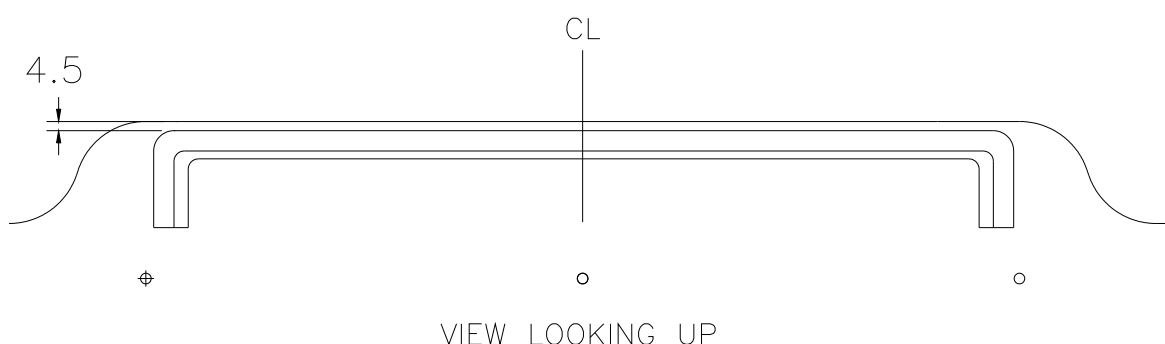

Figure 1: Installation of Bracket to the Instrument Panel Cover
- 10.13** Bond bracket onto Instrument panel cover (See Figure 1).